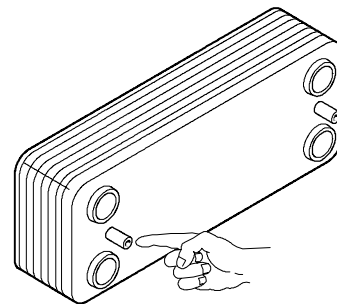

fig. 19
**Attention.** Reassembling the exchanger be sure to put the off center location/securing pin indicated in fig. 19 towards the left side of the boiler.